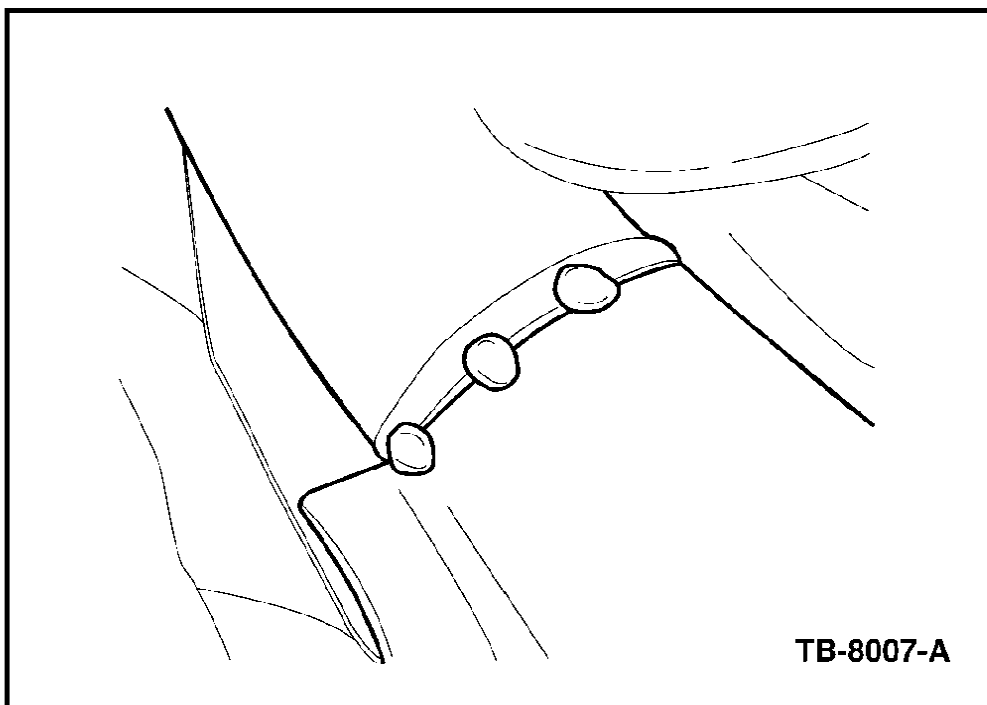

Figure 9
20. Tack weld the revised inlet pipe to the catalyst in three (3) places (Figure 9).